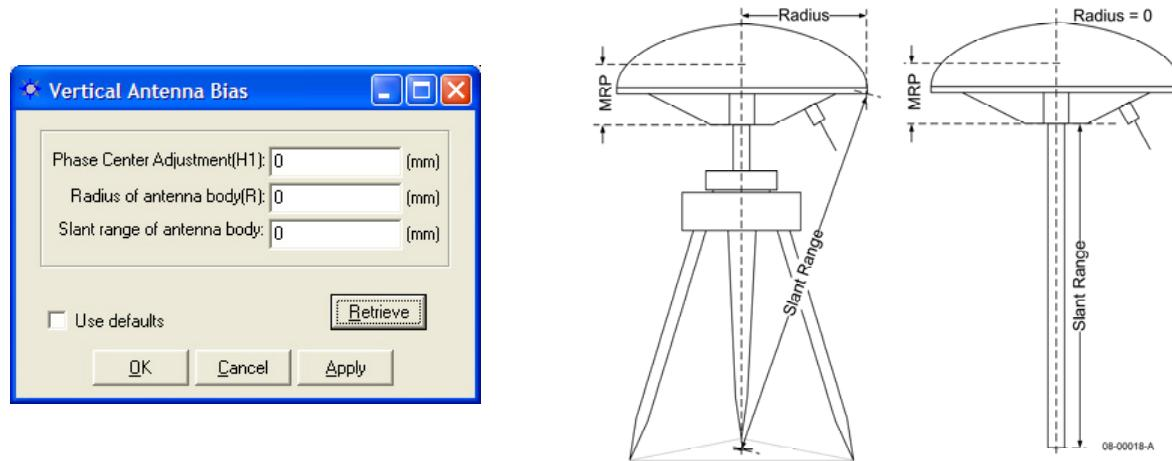

Figure 21: Vertical Antenna Bias
- ✓ **Antenna Setup Button:** Click this button to set the appropriate bias adjustment values for the antenna model in use (optional). The *Vertical Antenna Bias* window opens (see Figure 21):
- *Radius of Antenna Body (R)*: The measurement in millimeters from the physical center of the antenna to the edge of the antenna. For a pole, enter 0. For a tripod, the range limits are -32768 to 32767mm.